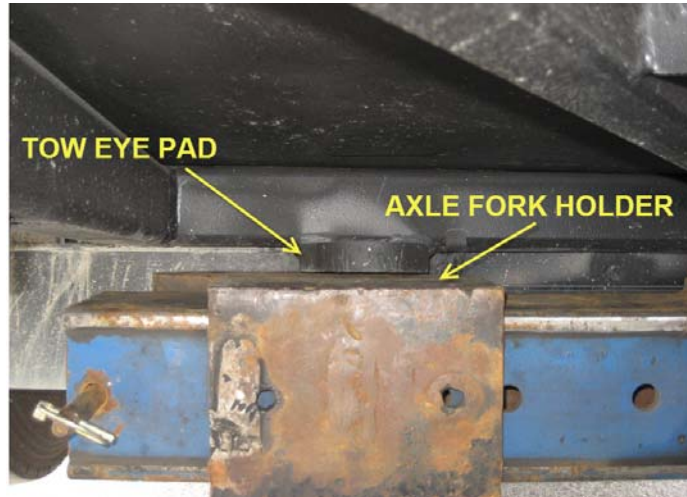

FIG.30
3. Deploy the tow truck stinger arm, placing the axle fork holders under the tow eye pads (fig. 30).